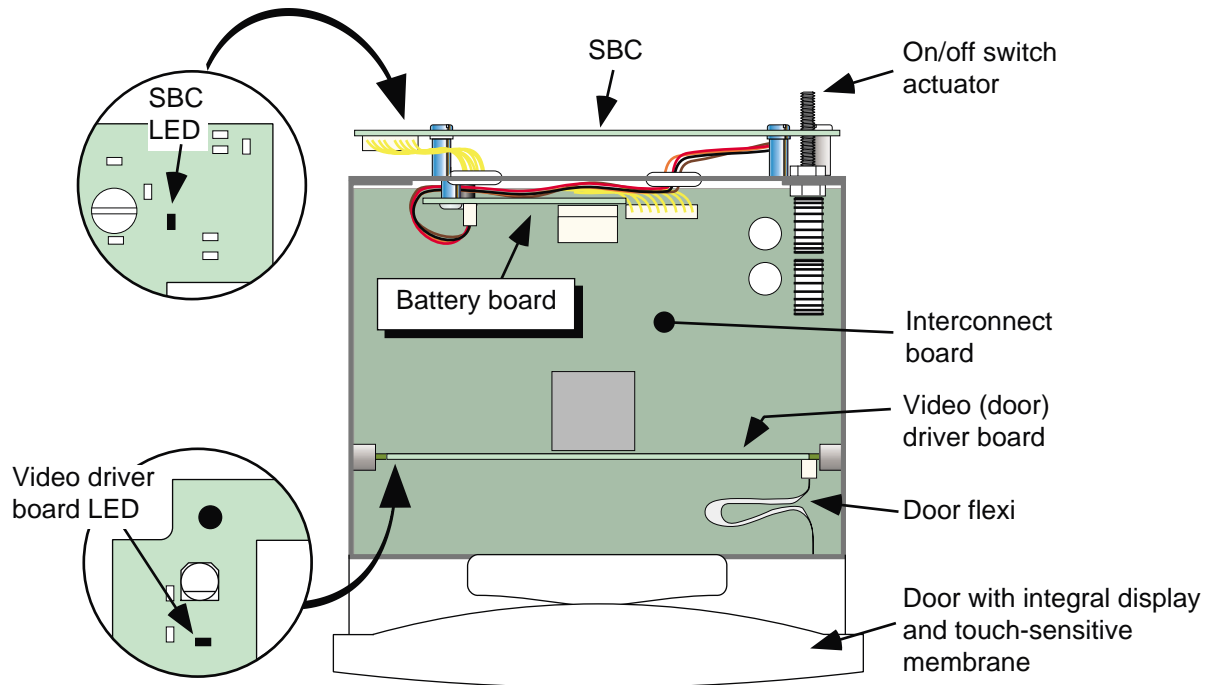

Figure 2.1.1 Component locations
Operate the on-off switch and check the status of the LEDs on the SBC and Video board (figure 2.1.1)
2. If no disk or memory card is inserted, withdraw the recorder from its case, and check the status of the SBC LED (fig 2.1.1 shows location). If this LED is flashing, replace the SBC. If it is on continuously, replace the interconnect card.